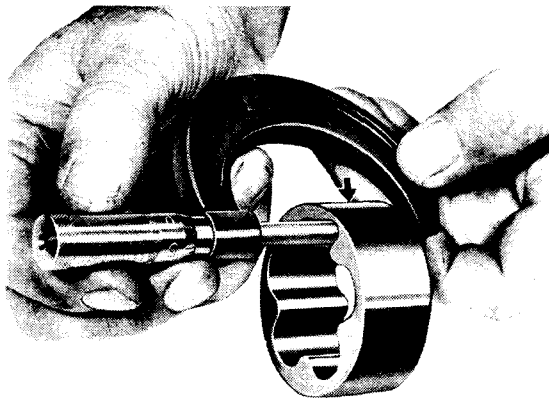

Fig. 44—Measuring Outer Rotor Thickness
- (3) Measure diameter and thickness of outer rotor. If outer rotor length measures less than .943 inch (Fig. 44) and the diameter less than 2.469 inches, replace outer rotor.